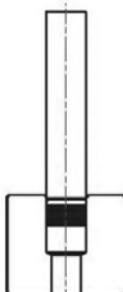

Fig. 3
- The pin can now be pressed in until the top of the pin is flush or within 0.3 mm with the top surface of the sleeve. Corresponding approximate values for stroke S, as well as the dimension X can be referred from the dimensional sheets [Fig. 3, 4 and 5].